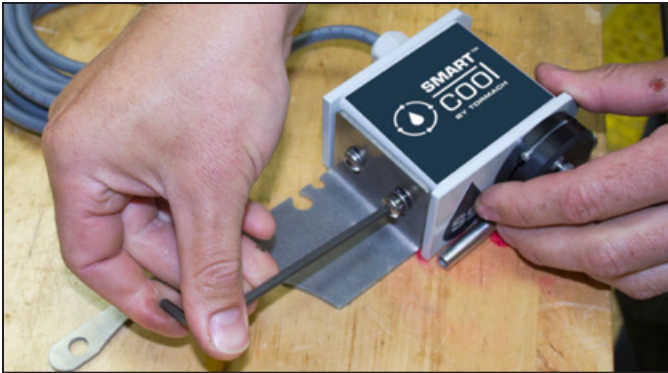

Figure 3
2. Using two M6 x 1 mm Button Head Cap Screws and two M6 Small Flat Washers, loosely attach SmartCool Head Unit to Mounting Bracket as shown in **Figure 3**.